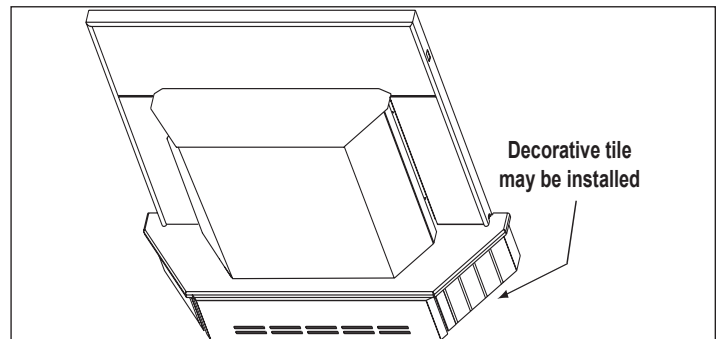

Figure 21.3
3. Measure front and side trims to required height to cover scissors and mark pieces for cutting. Cut excess material from **top** of trims edge, not bottom. This edge will be sharp; wear gloves to prevent injury to your hands (**Figure 21.3**).
NOTE: 3/8 inch (9.5mm) thick tile or like material can be cut to size and fit under lip of top trim edge for a decorative touch (**Figure 21.3**).